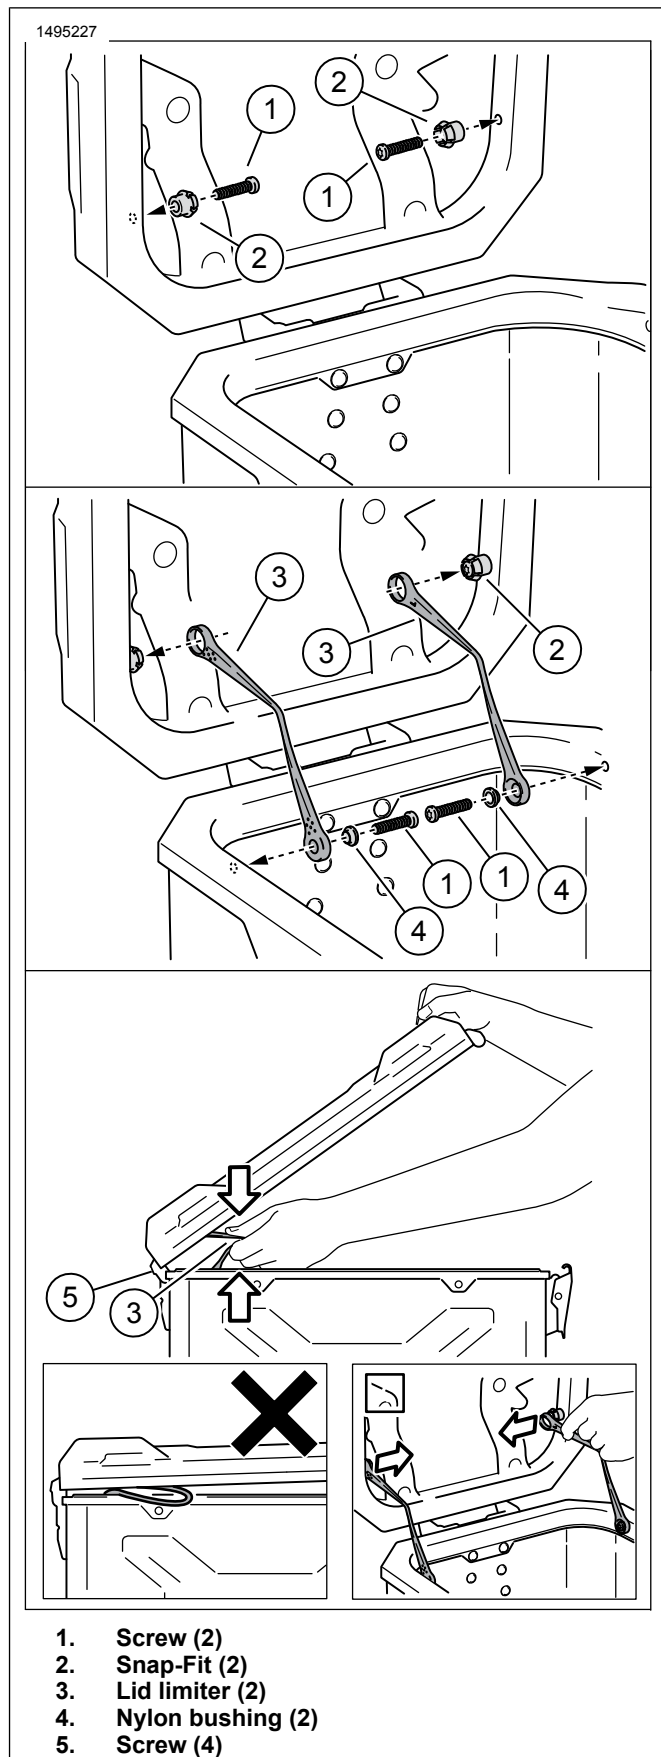

Figure 4. Lid Limiter Mounting
1. Figure 4 Open lid. Attach snap-fit (2) at lid frame. Tighten screws (1), hand tighten, fully seated.